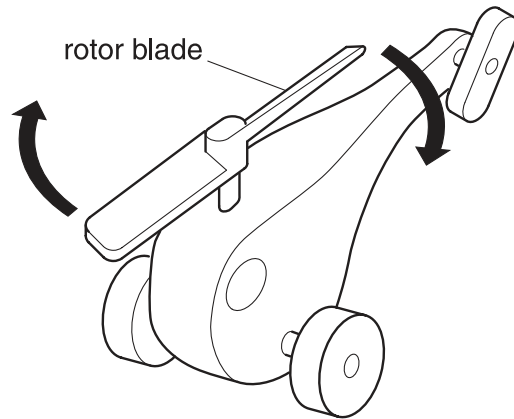

Fig. 5
- 5 Fig. 5 shows a pictorial view of a toy helicopter made from wood. As the toy is pushed along the ground the rotor blade turns as shown by the arrows.